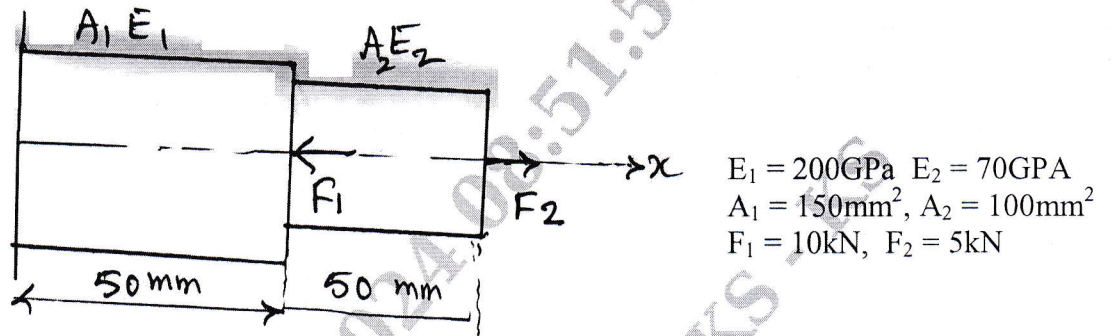

Fig Q3(b)
- b. Determine the nodal displacement for the stepped bar shown in the Fig Q3(b)